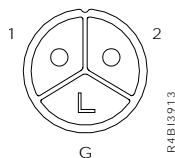

Figure 8. Receptacle Connector for RussellStoll 3743U-2 or 3913U-2
- Receptacle RussellStoll 3743U-2 (see Figure 8)
- Connector housing RussellStoll 3913U-2 (see Figure 8)